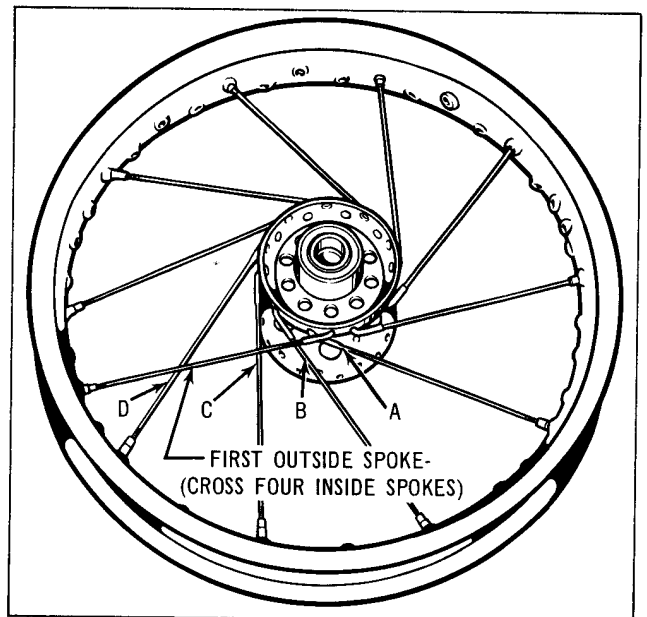

Figure 2-8. Spoking Wheel
5. Insert spokes in outer ten holes of flange and swing spokes clockwise (see Figure 2-8).